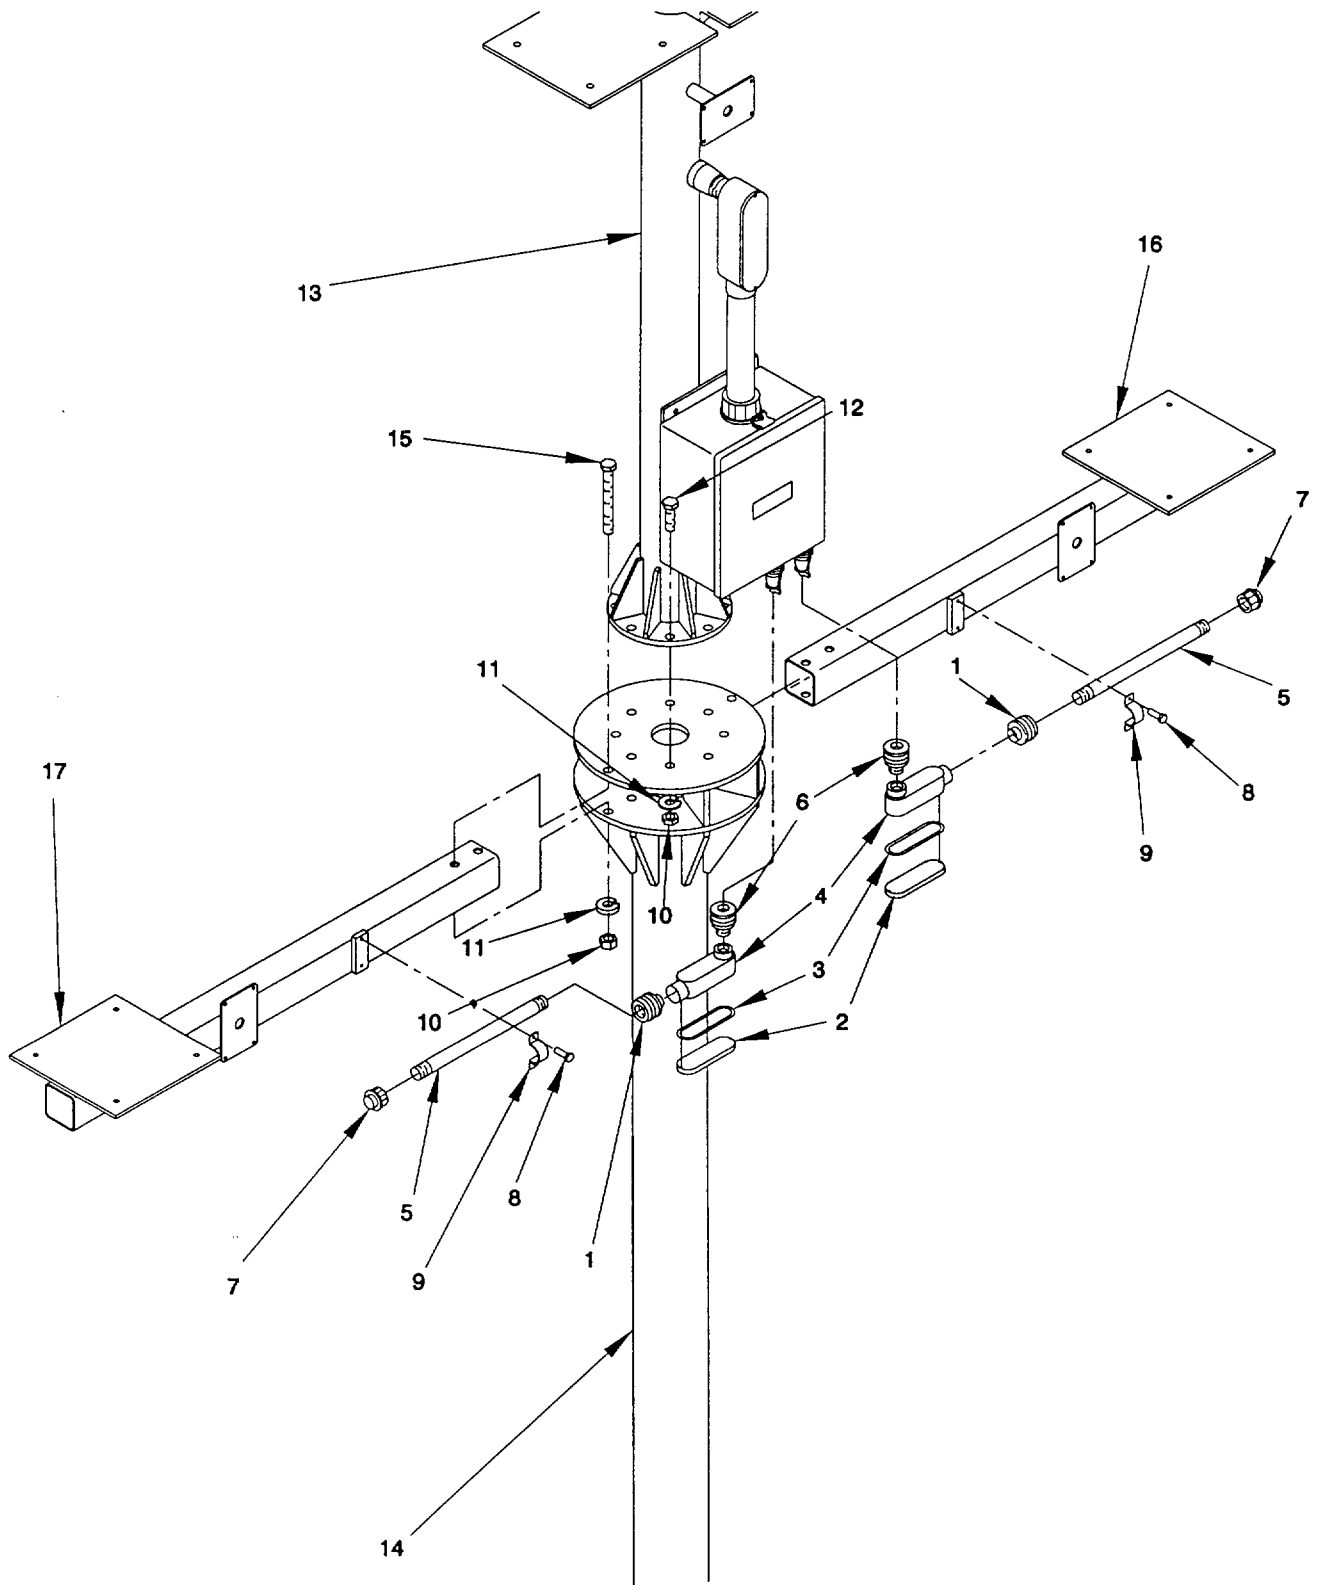
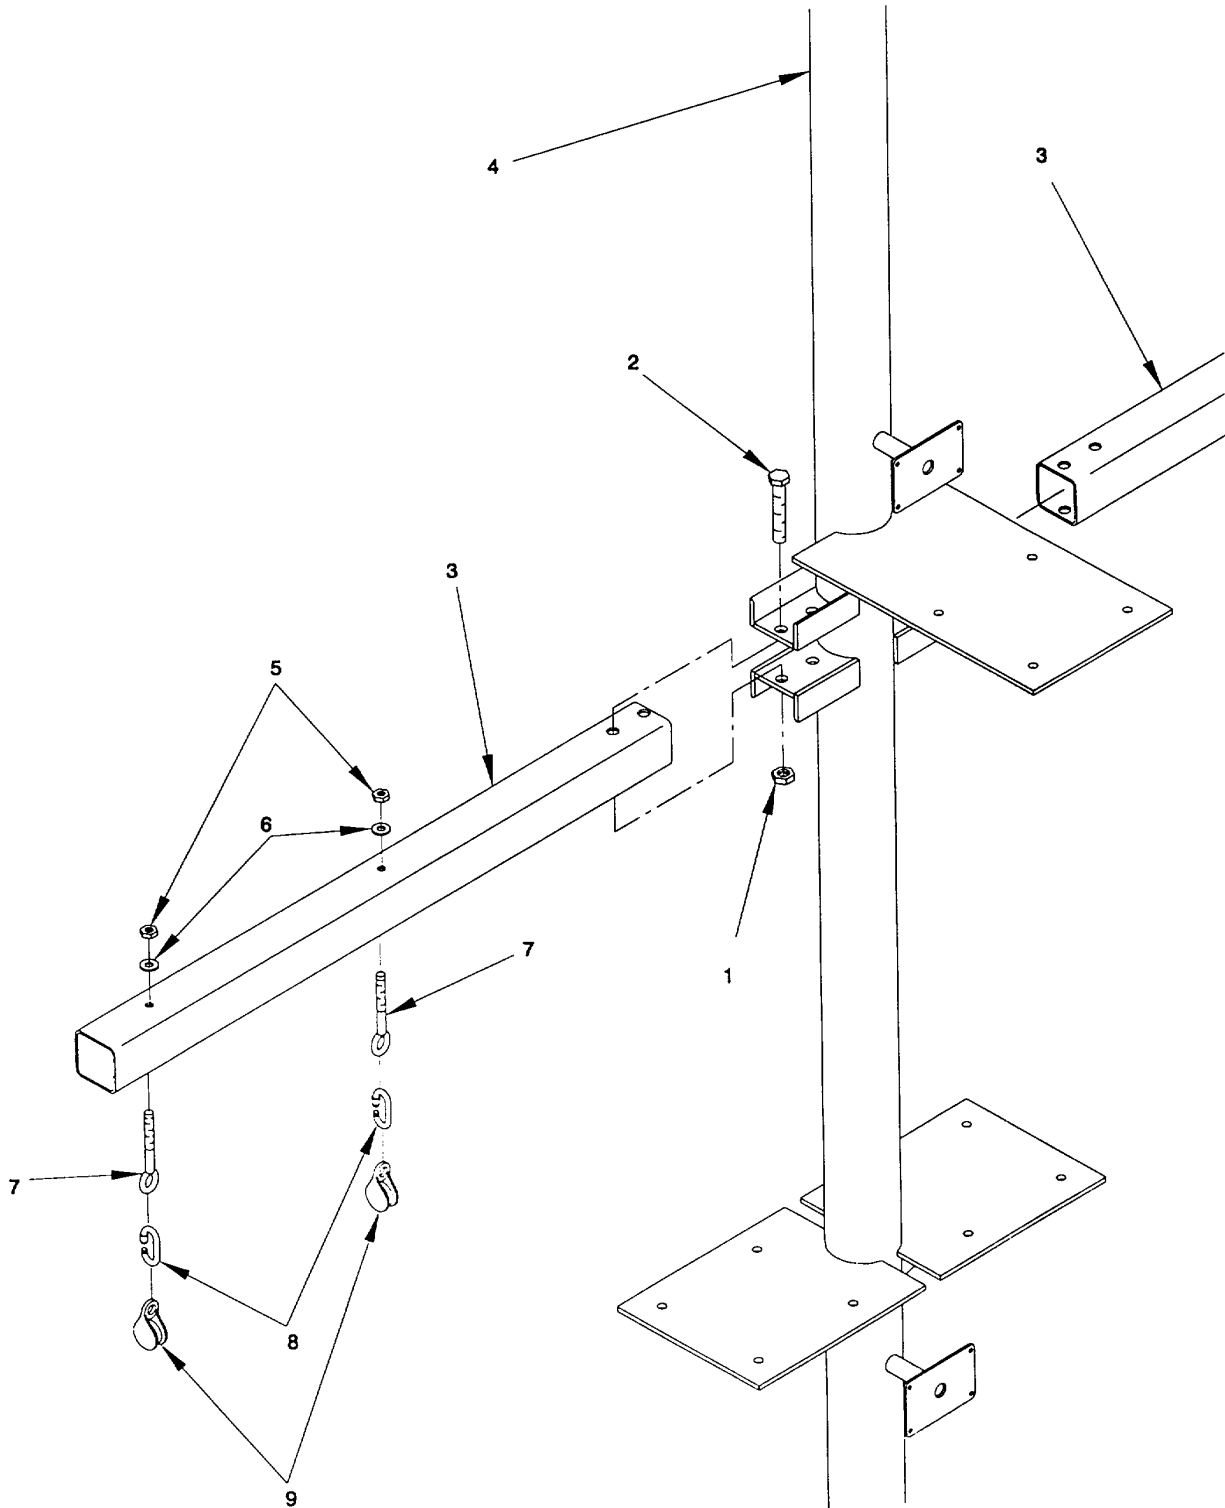
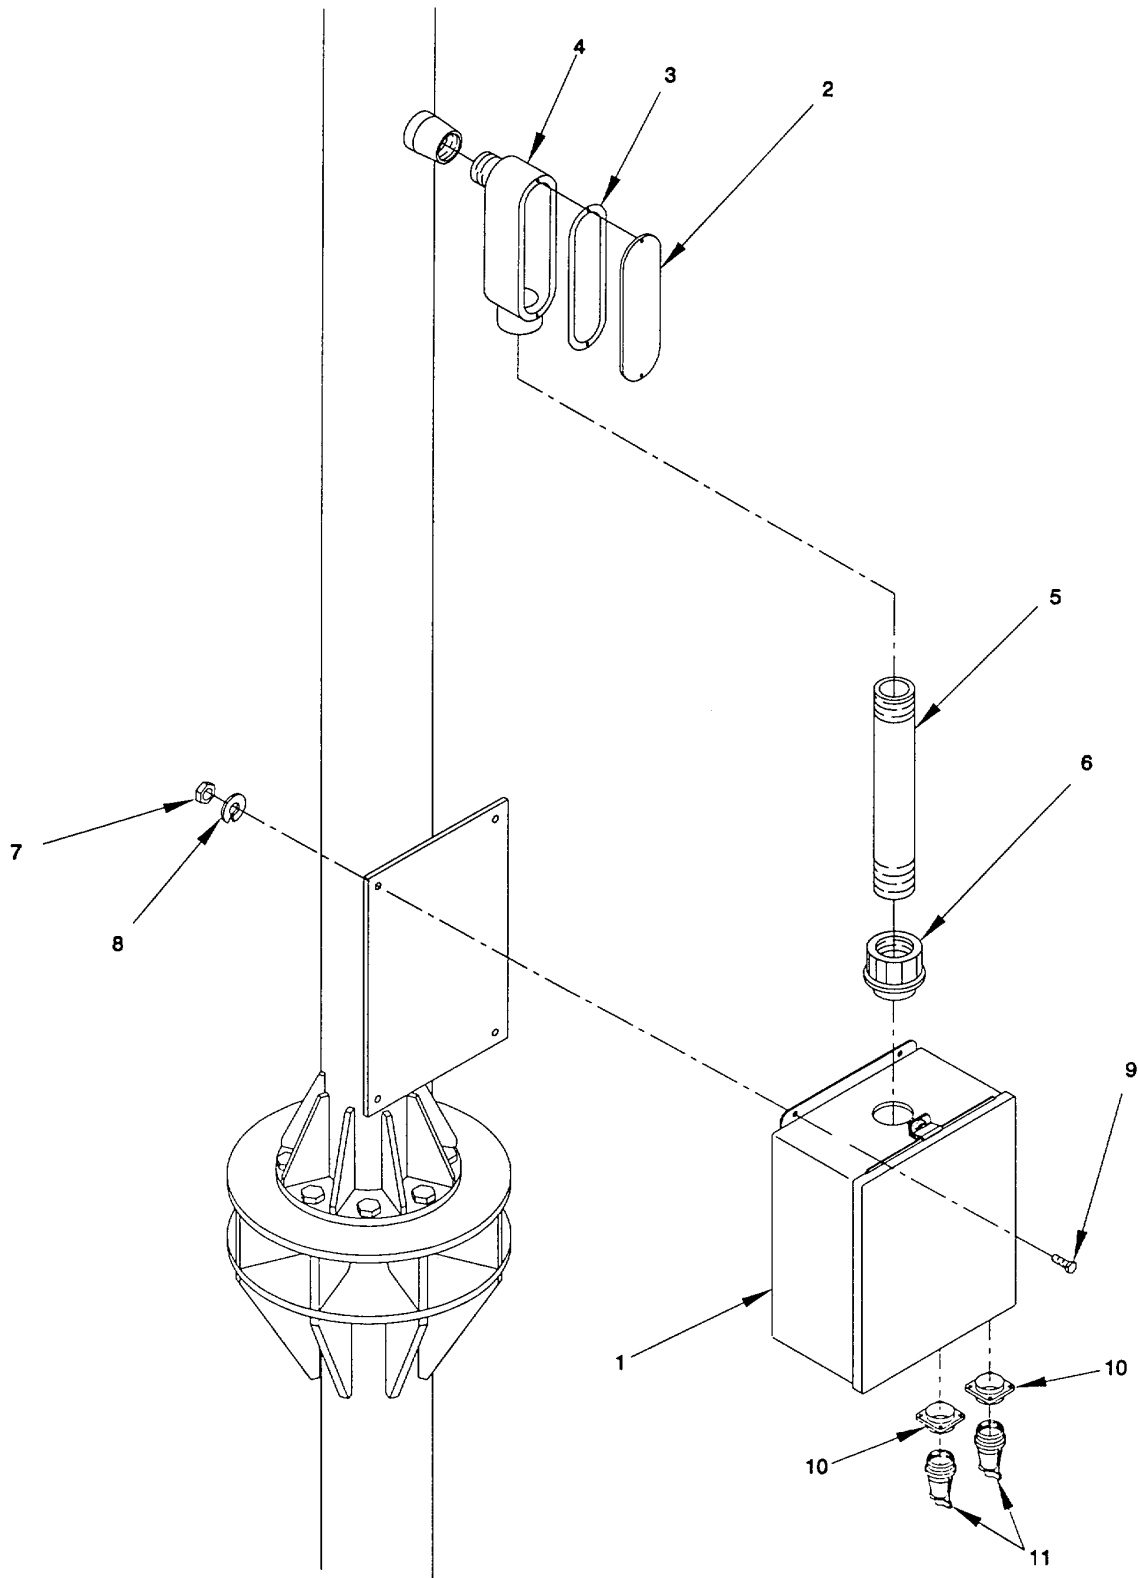

Figure 2-175. Lower Yardarm, Remove/Install.
Figure 2-176. Upper Yardarm Remove/Install.
Figure 2-177. Navigation Lights Terminal Box, Remove/Install.
- (a) Disconnect light pigtail(s) (1) from the junction box (2).
- (b) Remove hex nuts (3) and pan head capscrews (4) to bring junction box (2) off mast base.
- (c) If necessary, replace gasket (5).
- (4) Yardarms and Mast Structure.
- (a) Remove male unions (1, figure 2-175) to separate the blank covers (2), cover gaskets (3), and conduit bodies (4) from the round pipe (5) and the cord grips (6). Collect two hubs (7).
- (b) Remove capscrews (8) and clamps (9).
- (c) Remove six hex nuts (10), lockwashers (11), and 1-1/2" capscrews (12), to separate the upper mast (13) from the lower mast (14).
- (d) Remove four hex nuts (10), lockwashers (11), and 4-1/2" capscrews (15) to separate the port yardarm (16) and the starboard yardarm (17) from the mast assembly.
- (e) Remove four hex nuts (1, figure 2-176) and 4" capscrews (2) to remove the upper yardarms (3) from the upper mast (4)
- (f) If necessary, remove nuts (5) and flat washers (6) to replace corroded eye bolts (7), chains (8), or pulleys (9) off the upper yardarms (3).
- (5) Navigation Light Terminal Box. (figure 2-177).
- (a) Open navigation light terminal box (1) and disconnect/unsolder wiring.
- (1) Navigation Lights Terminal Box. (figure 2-177)
- (a) Install nuts (7), lockwashers (8), and capscrews (9) to secure navigation light terminal box (1) to mast.
- (b) Install hub (6), blank cover (2) with cover gasket (3), and conduit body (4) to the top of the navigation terminal box (1)
- (c) Open navigation light terminal box (1) and connect/solder wiring.
- (2) Yardarms and Mast Structure.
- (a) Install replacement chains (8, figure 2-176), pulleys (9), and eye bolts (7) onto the upper yardarms (3)